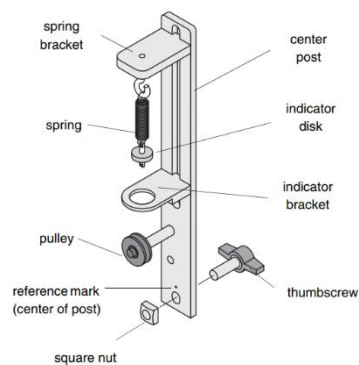

Fig. 2: Center Post Assembly
- (iv) Assemble Center Post (See Fig. 2)